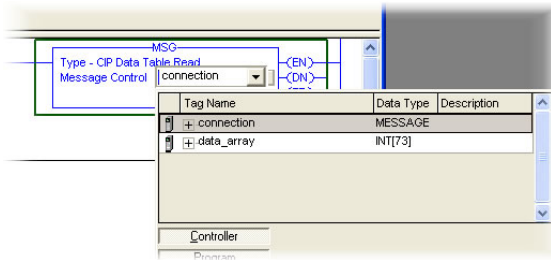

Figure 97: MSG Instruction Tag Assignment
- a) Edit the "Message Control" field on the MSG instruction to use the previously-created "connection" tag. Refer to Figure 97.